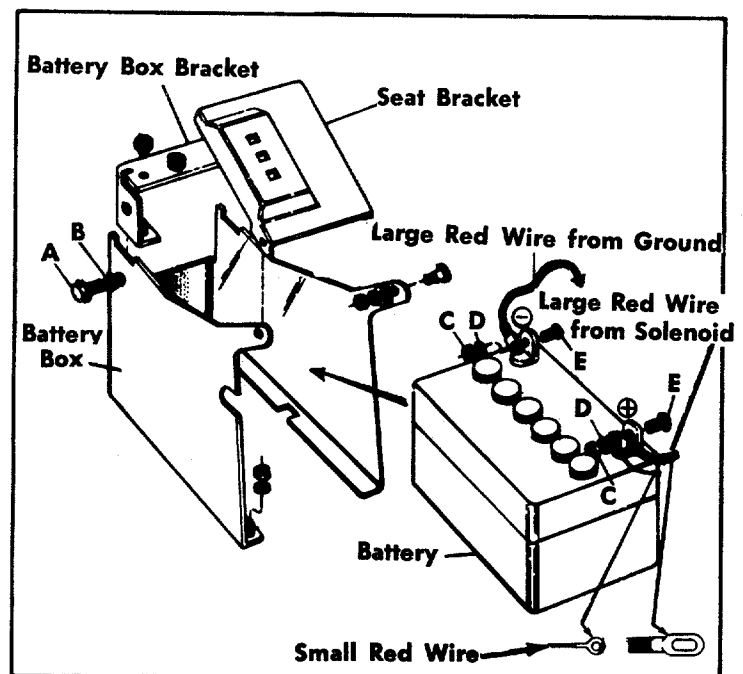

FIGURE 3. INSTALLING THE BATTERY
See figure 3.
Step 5. Attach the large red wire from the solenoid and the small red wire to the positive (+) terminal of the battery with a 1/4" screw (E), washer (D) and nut (C).
Step 6. Attach the large red wire from the ground (-) to the negative (-) terminal of the battery with a 1/4" screw (E), washer (D) and nut (C).
Step 7. Replace the battery box bracket with screw (A) and washer (B). See figure 3.